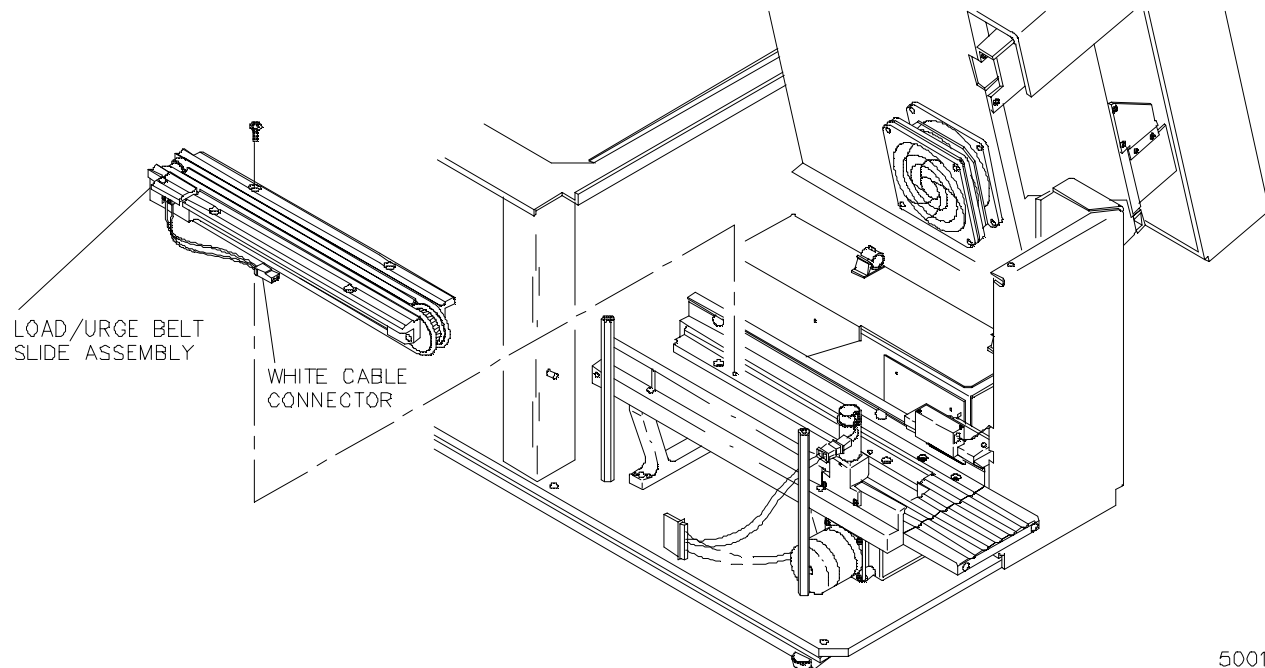

Figure 4-18. Load Urge Belt Slide Assy
4. Disconnect white cable connector under Load Urge Belt Slide Assy (**Figure 4-18**).